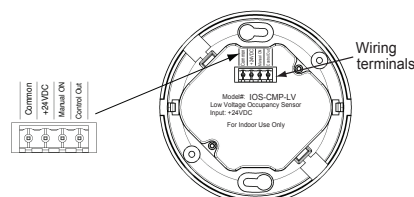

Figure 2
6. Connect the low voltage wires from the power pack to the appropriate terminals on the occupancy sensor. See table below for wire designations. Refer to Figure 2.